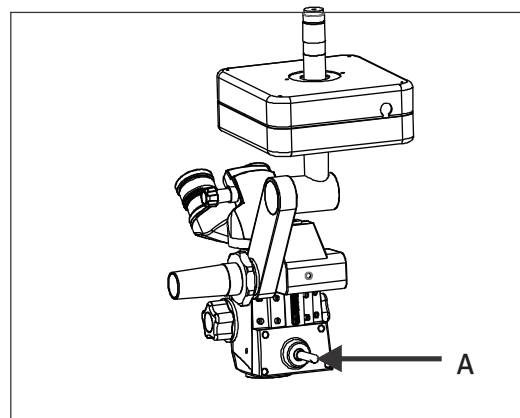

Fig. 6
- Insert the light guide into the receptacle in the microscope till it clicks into position as shown as A in fig.6
Fig. 6 a